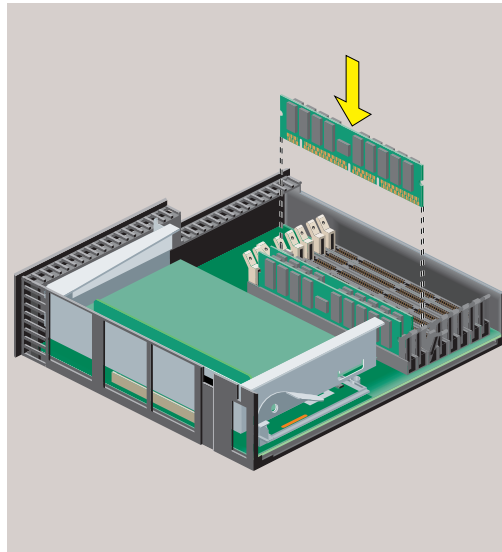

Figure 2-9 Installing the Memory Modules
5. Install the DIMMs consecutively in group of two, beginning with the lowest open slot (Figure 2-9).